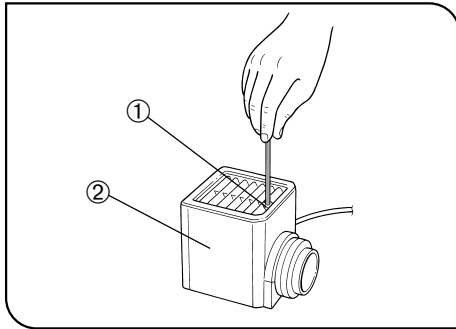

Fig. 2
(Figs. 2 to 4)
5. Fit the lamp housing from up and tighten the clamping screw ① by applying downward pressure. (Fig. 2)